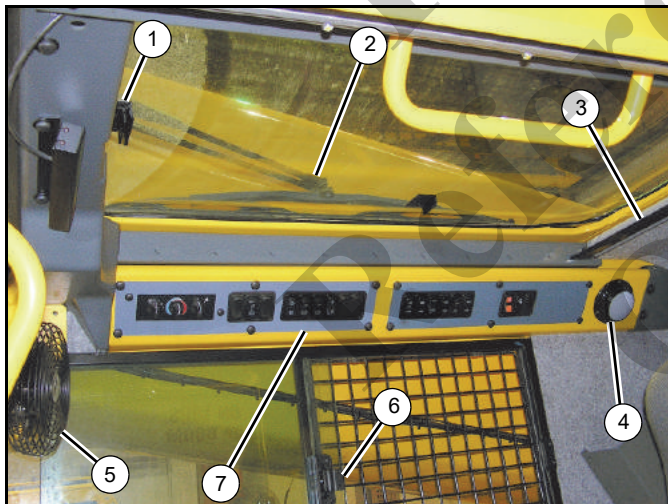
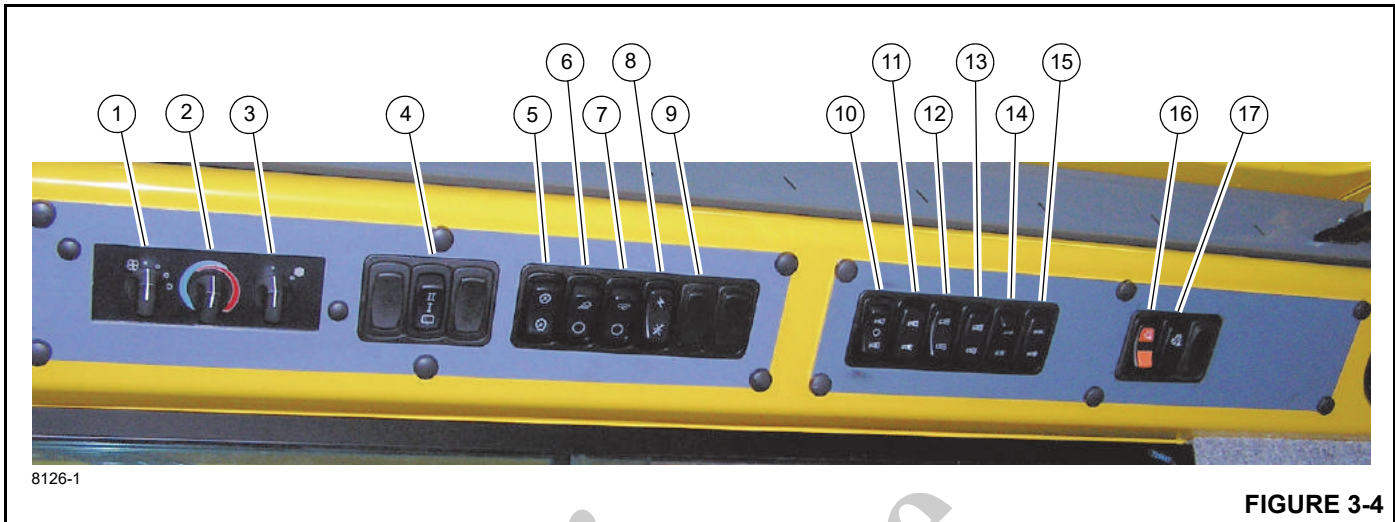

FIGURE 3-3
Figure 3-4 Item Numbers
The Skylight Window Latch (1, (Figure 3-3)) is at the front of the window. Squeeze the latch and slide the window to the rear to open. To close slide the window forward until the latch engages.
The Skylight Wiper (2, Figure 3-3) is controlled by the Skylight Wiper Switch, (4, Figure 3-4), and operated by the Wiper Motor.
The Skylight Sunscreen (3, Figure 3-3) is used to diminish direct sunlight. The sunscreen is self retracting and can be set to screen all the light or adjusted reward by moving it into the notches provided.
The Cab Dome Light (4, Figure 3-3) is on the right rear corner of the cab overhead console and provides illumination in the cab. The dome light is controlled by a switch on the light.
The Cab Circulating Fan (5, Figure 3-3) is located on the left front side of the cab, above the window frame. A swivel allows the fan to be rotated and a switch on the fan base controls the fan. The switch has a high, low and off positions.
The window on the right side of the cab can be opened. Squeeze latch (6, Figure 3-3) to release the window and slide forward. To close slide the window rearward until the latch engages.
The Heater/Air Conditioner Fan Switch (1, Figure 3-4) controls the cab fan’s speed. Fan speed controls the volume of heated air output (or cooled air output) of the fan. Settings are OFF, LOW speed, MEDIUM speed, and HIGH speed.
The Heater Control Switch (2, Figure 3-4) controls intensity of heating temperature. Turn the switch to the right (clockwise) to open the valve for heat. (Heat comes from heated fluid going through the heater coil.) Turn the switch to the left (counterclockwise) to close the valve to stop fluid flow and minimize heat.
The Air Conditioning Switch (3, Figure 3-4) controls the operation of the optional air conditioning system. Settings are off (O) and on (I).
The electrically-operated Skylight Wiper is installed to remove moisture from the skylight. The Skylight Wiper is controlled by the Skylight Wiper Switch (4, Figure 3-4). This is a 3 position switch OFF/LOW speed/HIGH speed.
The Panel Dimmer Switch (5, Figure 3-4) controls the lighting for the overhead heater/air conditioning controls and the Transmission Oil Temperature Gauge (7, Figure 3-10), push the switch to increase or decrease the panel lighting.
The Work Lights Switch (6, Figure 3-4) controls the crane’s work lights mounted on the bottom front of the superstructure cab. Press the top of the switch to turn on the work lights. Press the bottom of the switch to turn off the work lights.
The Boom Lights Switch (7) (Figure 3-4) is located on the side display panel. This two-position rocker switch (ON/OFF) controls operation of the boom flood lights. Press the top of the switch to turn on the boom lights, press the bottom of the switch to turn the lights off.
The Crane Function Power Switch (8) (Figure 3-4) is located on the side display panel. This two-position (ON/OFF) rocker switch permits the operator to disconnect power from the crane functions controlled by the hydraulic remote controllers on the armrests. Positioning the switch to OFF prevents inadvertent operation of functions due to bumping the controllers while roading or any other operation.
The Engine Exhaust System Cleaning Switch (9) (Figure 3-4) is located on the right side of the overhead control panel. This switch is a three position switch, INHIBIT Cleaning/PERMIT Cleaning/START Cleaning. Press this switch to start exhaust system cleaning or to disable exhaust system cleaning:
The Boom Section 1/Section 2 Selector Switch (10) (Figure 3-4) and Indicator (11) are located on the overhead control panel. The switch (10) is a three position rocker type switch that is used in conjunction with the Boom Manual/Automatic Mode Selector Switch (12).
When operating in the manual mode, the Boom Section 1/Section 2 Indicator (11) (Figure 3-4) will indicate which boom section has been activated by the Boom Section 1/Section 2 Selector Switch (10).
The Boom Manual/Automatic Mode Selector Switch (12) (Figure 3-4) and Indicator (13) are located on the overhead control panel. The switch (12) is a two-position rocker type switch labeled AUTO (Automatic) and MAN (Manual).
Normal crane operation is performed with the Boom Manual/Automatic Mode Selector Switch (12) positioned to the Auto Mode (bottom of switch is pressed), which causes the boom sections, when actuated, to extend and retract in a predetermined sequence based on the position of the Boom A/B Mode Selector Switch (14) (Figure 3-4). When the Boom Manual/Automatic Mode Selector Switch (12) is positioned to Auto Mode, the Boom Manual/Automatic Mode Indicator will indicate Auto Mode.
The Boom A/B Mode Selector Switch (14) (Figure 3-4) and Indicator (15) are located on the overhead control panel. The switch (14) is a two position rocker type switch that is used to change the sequence in which the boom sections extend and retract when operating in the Automatic mode.
With the Boom Manual/Automatic Mode Selector Switch (12) (Figure 3-4) positioned to automatic mode and the Boom A/B Mode Selector Switch (14) positioned to A mode (top of switch is pressed), the boom control system, when extending the boom, will fully extend Sections 2, 3, and 4 before extending Section 1; and when retracting the boom, the control system will fully retract Section 1 before retracting Sections 2, 3, 4. Conversely, when the Boom A/B Mode Selector Switch is positioned to B mode, the boom control system, when extending the boom, will fully extend Section 1 before extending Sections 2, 3, and 4; and when retracting the boom, the control system will fully retract Sections 2, 3, 4 before retracting Section 1.
The Boom Recovery Mode Switch (16) (Figure 3-4) and Indicator (17) are located on the overhead control panel. The switch (16) is a two position rocker type switch that has an integral lock to prevent accidental activation. The Recovery Mode Switch overrides the boom control system and allows the boom to be recovered (retracted) in the event the boom telescope function stops working due to a sensor failure or loss of communication with the rated capacity limiter (RCL). The indicator (17) will flash if a failure occurs. Refer to *Retracting the Boom Using the Boom Recovery Mode*, page 3-42 to recover the boom if there is a failure in the boom control system.